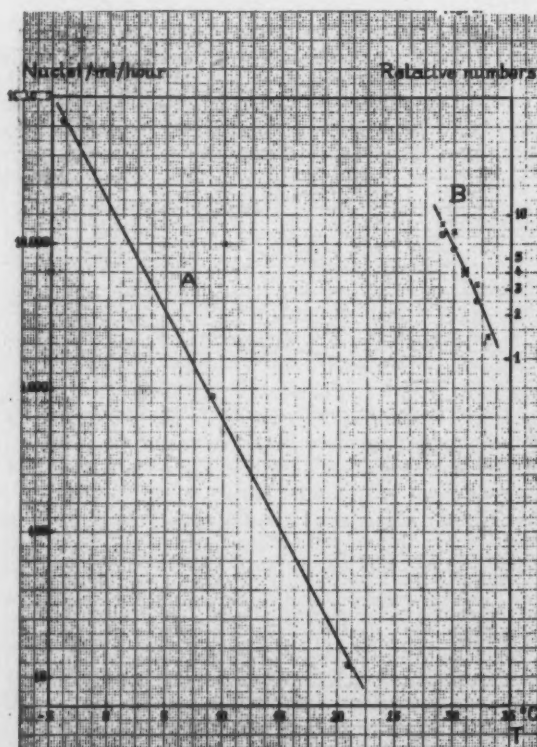

Fig. 17. β -nuclei-formation velocities. (A) Pure unagitated cacao butter (B) Agitated chocolate liquor.
β -nuclei appear at a measurable speed. We found that at 21° (70°F) the velocity of nuclei-formation is about 12 nuclei/ml/hour, at 9° C (48° F) 900 nuclei, at -4° C (25° F) 70,000 nuclei. This is represented by line A in Fig. 17. It can be seen that the logarithm of the number of nuclei formed is inversely proportional to the temperature, as might be expected from the classical equations of kinetics.
In chocolate liquor the solid-liquid interfacial area is very large, and during tempering the liquor is continually stirred. Under these conditions, β -nuclei-formation can take place from the melt. It is impossible to determine the number of nuclei formed, but from the time necessary to obtain optimum temper, relative speeds can be calculated. Line B in Fig. 17 is based on results obtained by Neville et al. (28) and Grover and Wertheim (18) between 29° C (84.2° F) and 33° C (91.4° F). It is remarkable that the slope of this line is apparently not very different from that of line A. It should not be forgotten that at these temperatures a considerable proportion of the cacao butter is liquid at equilibrium.
A comparison with Fig. 17 shows that the nucleation velocity increases about ten times faster with decreasing temperature for the γ -form of cacao butter than for the β -form. Borneo tallow shows a similar behaviour, but the line lies about 4° C higher. The mixture of cacao butter with 15% butterfat lies 0.6° C lower (1° F), while pure butterfat gives a line with a much lower slope.
- 3) The β -nuclei required for correct tempering can come from additions of old chocolate shavings which are in the stable form, or they can originate in the liquid chocolate liquor. In the latter case the nucleation speed will depend, for a given mix, on the temperature and the degree of agitation. Fig. 17 shows that it is doubled every time the temperature is decreased for 2° C (3.6° F). Agitation is very effective because it breaks up aggregates into many small particles.